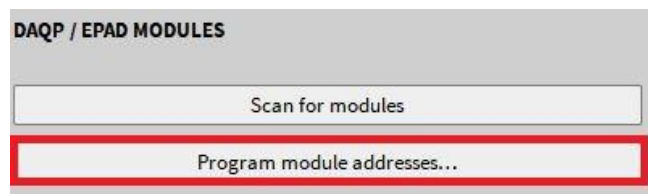

Figure 2-19: Program module addresses button
- If you have multiple EPAD2-modules daisy chained together, the user can select the *Program module addresses...* button (see Figure 2-19)